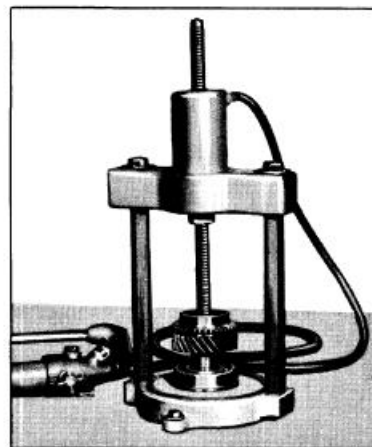

Figure 4-23—Installing Main Drive Gear Bearing
a. Press bearing onto main drive gear (snap ring groove to front). See Figure 4-23. Be certain bearing fully seats against shoulder on gear.